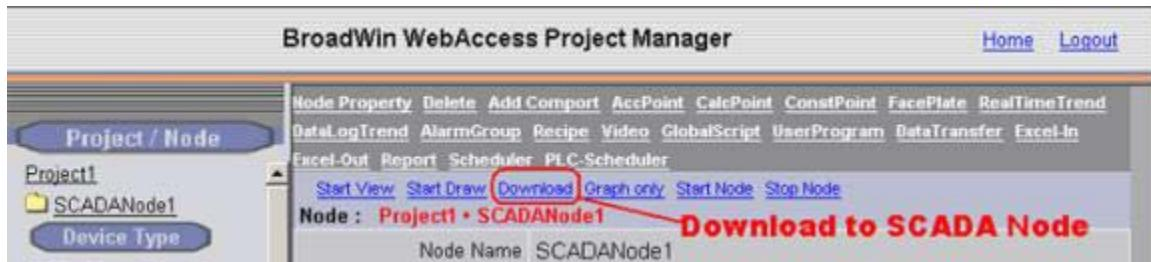

Figure 4-31 - SCADA Node Main page (Main.asp) - Download
1. Select the SCADA Node under your Project Name in the Project/Node list (Figure 4-31).
5. If the Node was not already running, from the Project Manager Select **Start node** (Figure 4-31).